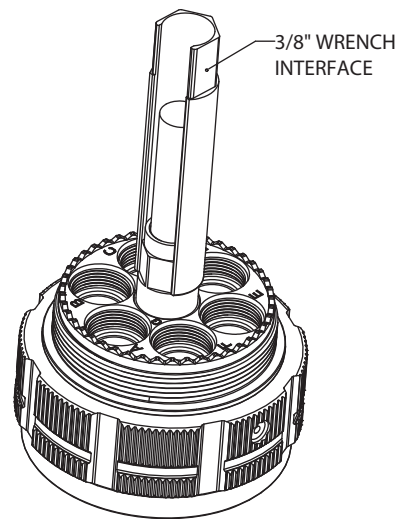

FIGURE 2
- B. Using the retention ferrule tool (Glenair P/N 607-011), and a 3/8" wrench, tighten the outer shield ferrule to a torque of 8-10 in-lb. (Figure 2)